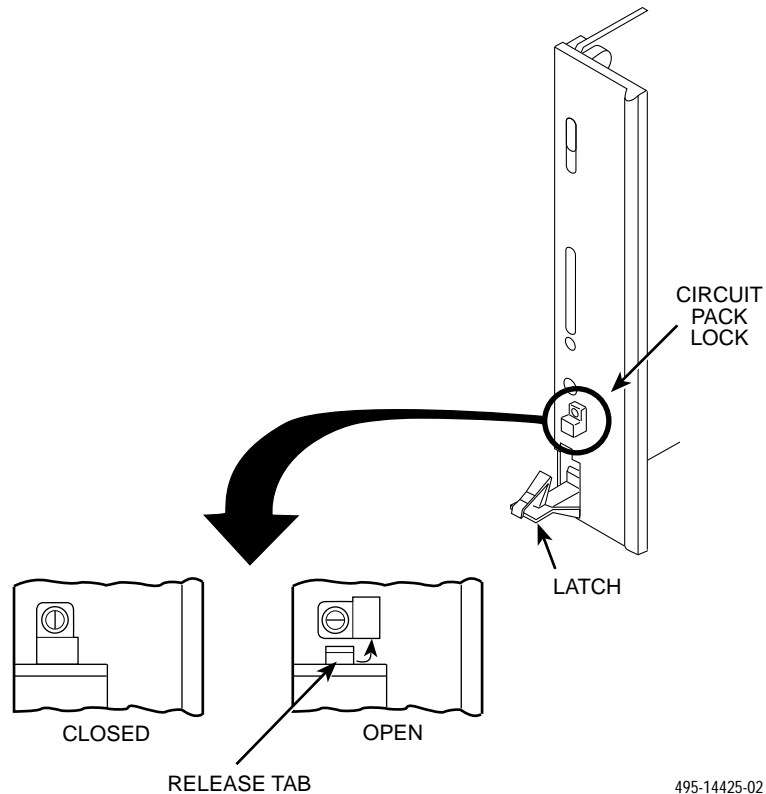

Figure 2-4. Circuit Pack Lock
6. Once you have determined that the modem is installed properly and completed its power-up self-test, rotate the circuit pack lock until it covers the faceplate latch (Figure 2-4) and tighten the retention screw on the circuit pack lock. This prevents the modem from accidentally being removed once it is installed in a carrier.
1. Rotate the circuit pack lock until the release tab is exposed (Figure 2-4).